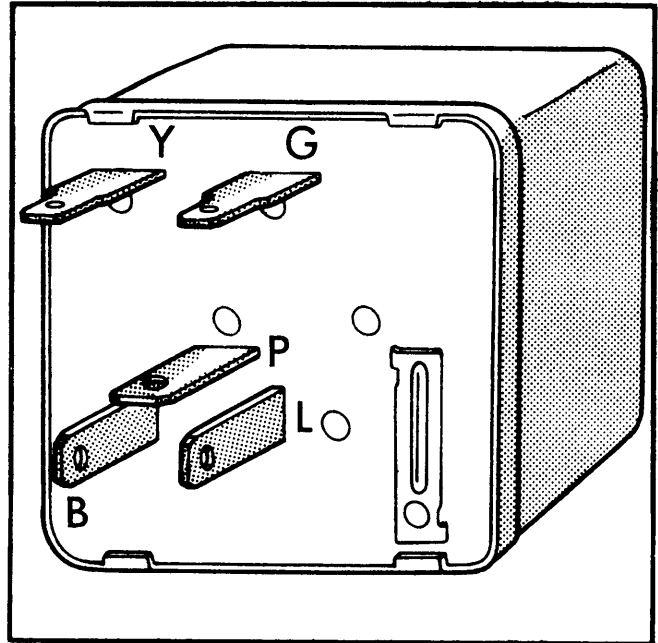

Fig. 2 Timer Relay Connections
4) If system still does not operate, check leads and grid lines at rear window. Turn ignition and control switches on, attach a voltmeter between points "A" and "B" (see Fig. 2). Voltage reading should be 10-14 volts, if lower, check ground connections. With voltmeter connected at "B", measure grid voltages at midpoint "C". Voltage should be approximately six volts, a reading of zero volts indicates a break between point "A" and midpoint "C". A reading of 12-13 volts indicates a break between midpoint "C" and "B".